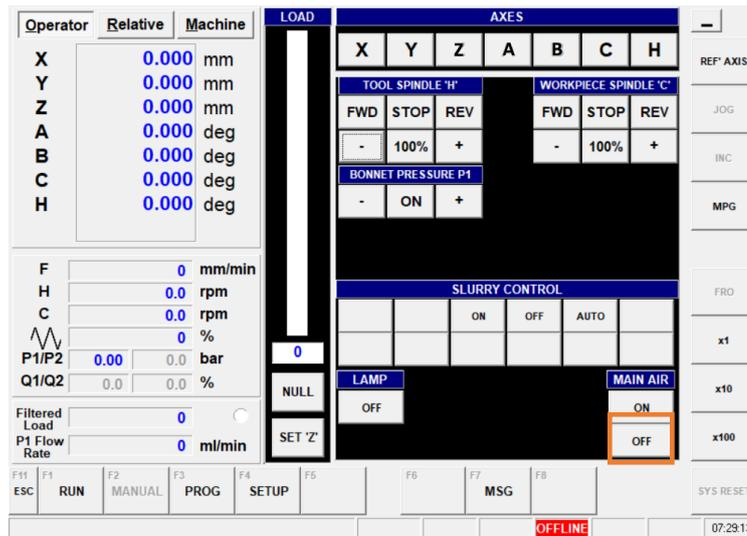

Figure 19 - Compressed air supply OFF
1. Switching off the compressed air (Main Air) supply to the machine, is activated from the "Manual" menu in the Zeeko GUI. This is done by pressing the "Manual button" from the main screen and then pressing the OFF button for the main air. See (Figure 19 - Compressed air supply OFF).